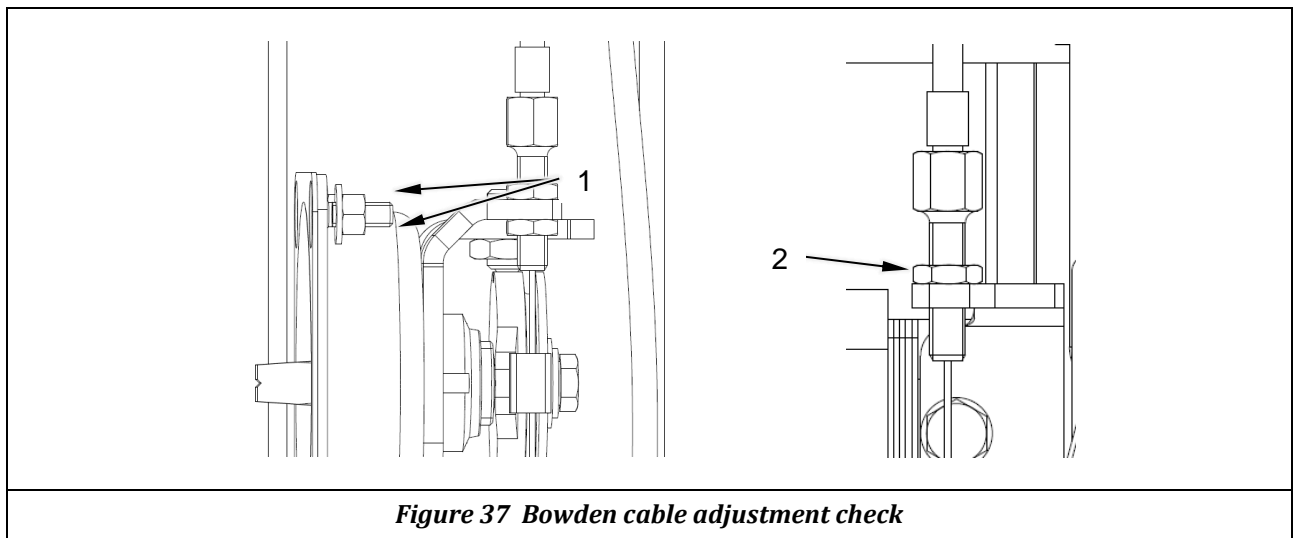

Figure 37 Bowden cable adjustment check
- 1) Adjust the adjusting nut (Item 1/2, Figure 37) to increase or decrease the length of Bowden cable for EED or EAD. Until the door can be unlocked by EED or EAD